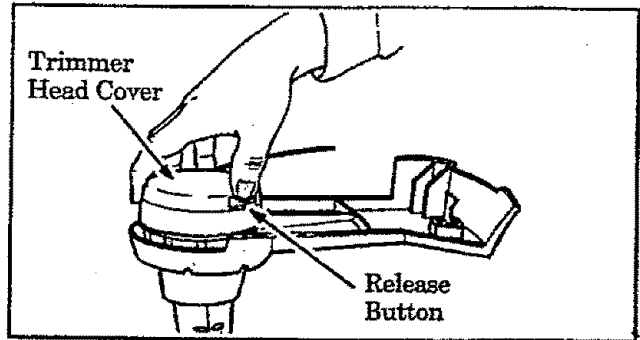

Figure 9
- Push the Release Button and lift off the Trimmer Head Cover. Figure 9.
- Reinstall the Trimmer Head Cover. Figure 9. Make sure the tabs are in place and securely fastened.